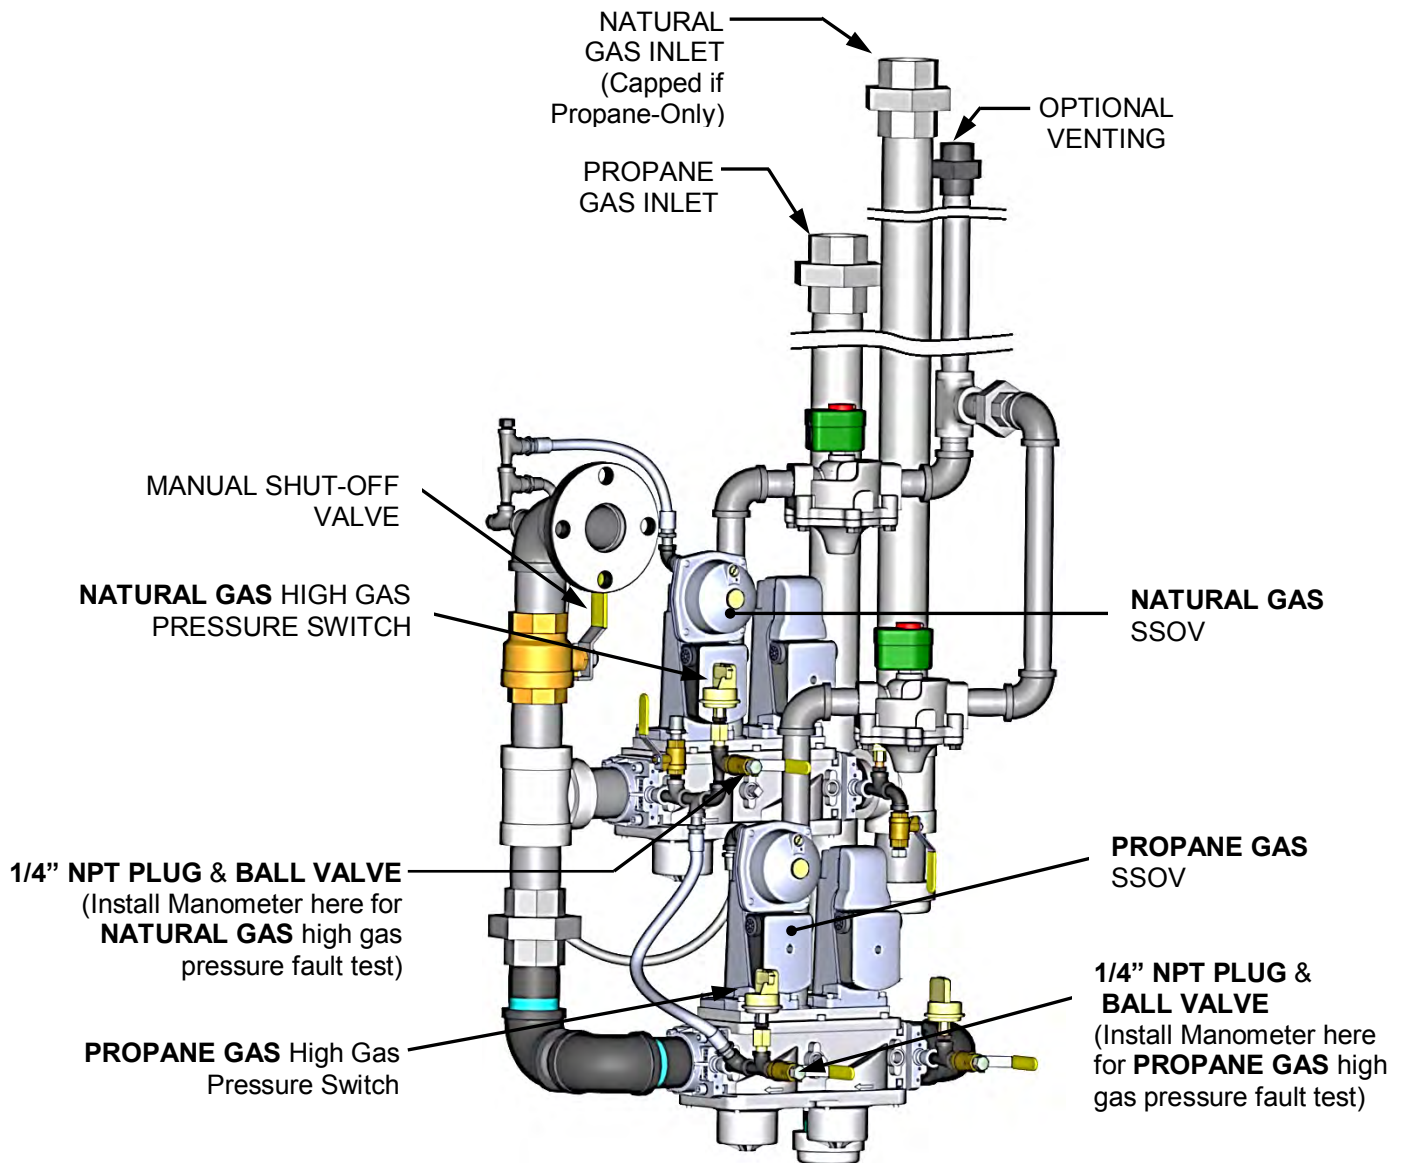

Figure 6-1B: High Gas Pressure Test (BMK 3000DF DBB Gas Train Pictured)
To simulate a high gas pressure fault, refer to Figure 6-1B and perform the following steps:
1. Remove the 1/4" plug from the appropriate ball valve (Natural Gas or Propane) at the associated high gas pressure switch as shown in Figure 6-1B.
6. Slowly increase the gas pressure using the adjustment screw on the associated SSOV (see Figure 6-1B).